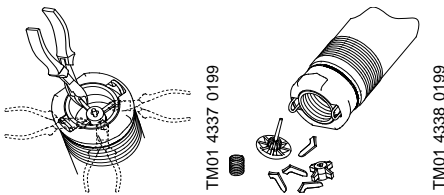

Fig. 6
- Cut off the legs of the valve guide using side-cutting pliers or a similar tool, see fig. 6.